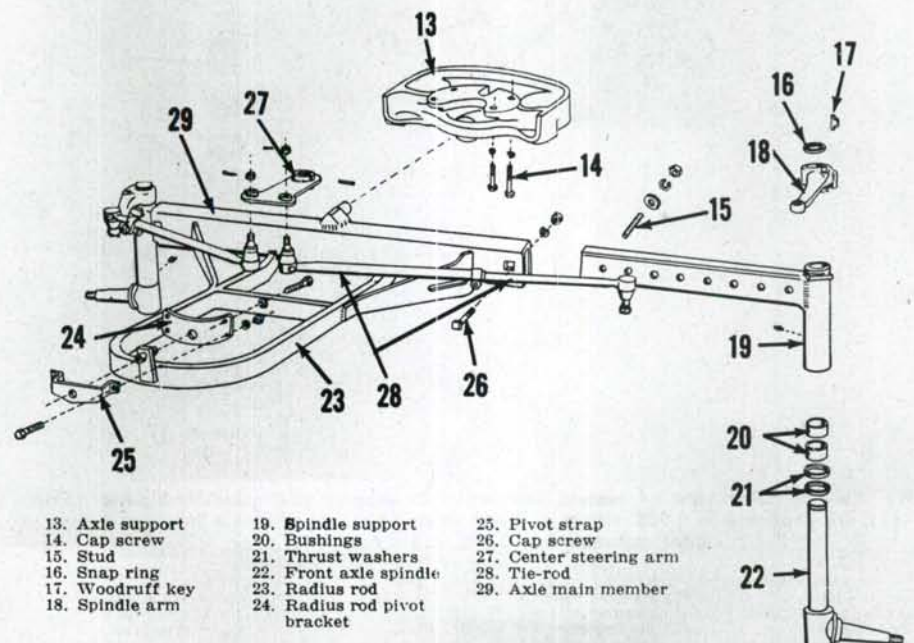

Fig. 5 — Exploded view of typical adjustable axle and associated parts. Radius rod (23) is welded to axle main member (29).
8. REMOVE AND REINSTALL. Support tractor, and disconnect tie rods from center steering arm (27— Fig. 5). Detach radius rod pivot bracket (24) from torque tube and lower rear of radius rod. NOTE: Some rear pivots may be different from type shown in Fig. 5. Move front axle assembly rearward and roll axle assembly away from tractor. Axle sup-